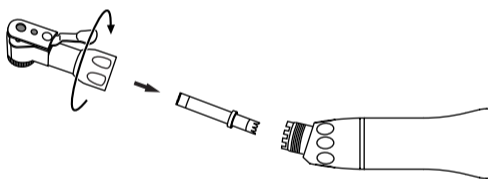

Fig.5
- 2) Pull out the Drive Gear Assembly from the head. (Fig. 5)